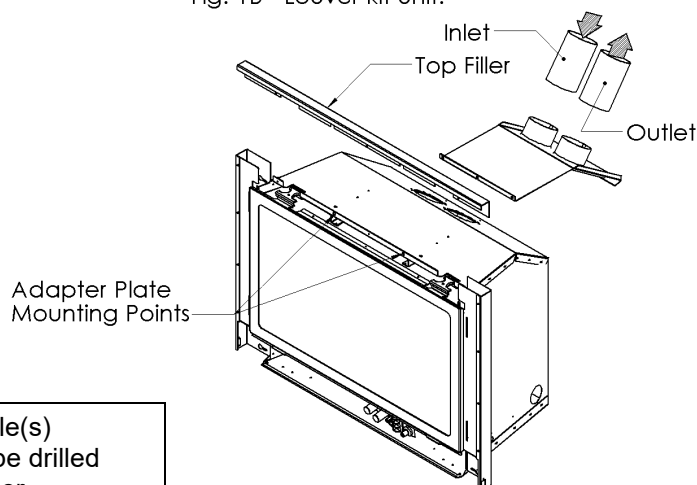

Fig. 3 - Remove top filler to install venting adapter.
1. Remove the Top Filler and adapter plate from the unit by removing the five [5] screws as shown below. (Fig. 3) Attach the vent pipes to the termination with Millpac and 4 screws per pipe joint. Be sure to label the exhaust and intake flex pipes. Make sure not to connect the exhaust to the intake or vice-versa. Lower the termination and vent pipe down the vent and screw and seal plate to the chimney crown, clay tile chimney or wood stove vent. It may be necessary to pre-drill holes into the chimney crown (depending on material) (8 screws).